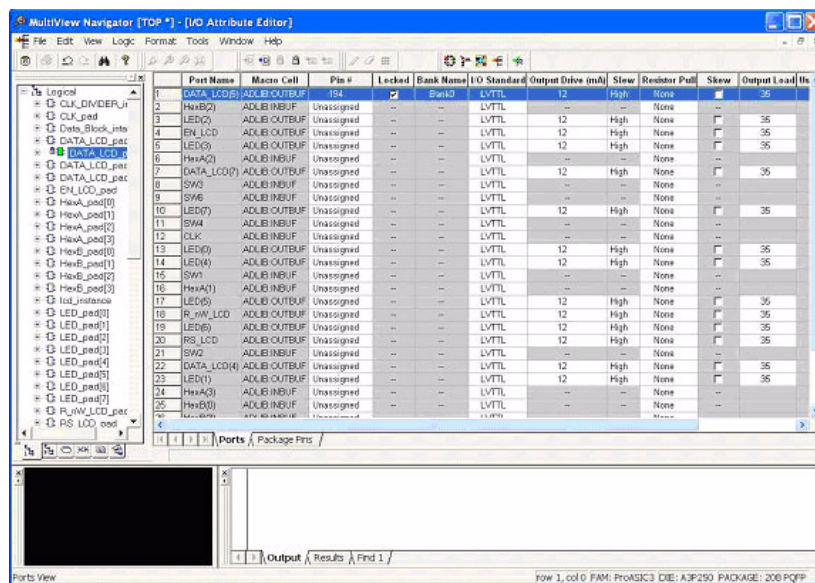

Figure 7-32. I/O Attribute Editor in MultiView Navigator
- Once the design compiles successfully, use the **I/O Attribute Editor** tool to assign the pin for subsequent place-and-route runs. Click the **I/O Attribute Editor** to open the tool. It opens in the MultiView Navigator user interface, as in Figure 7-32 on page 54.